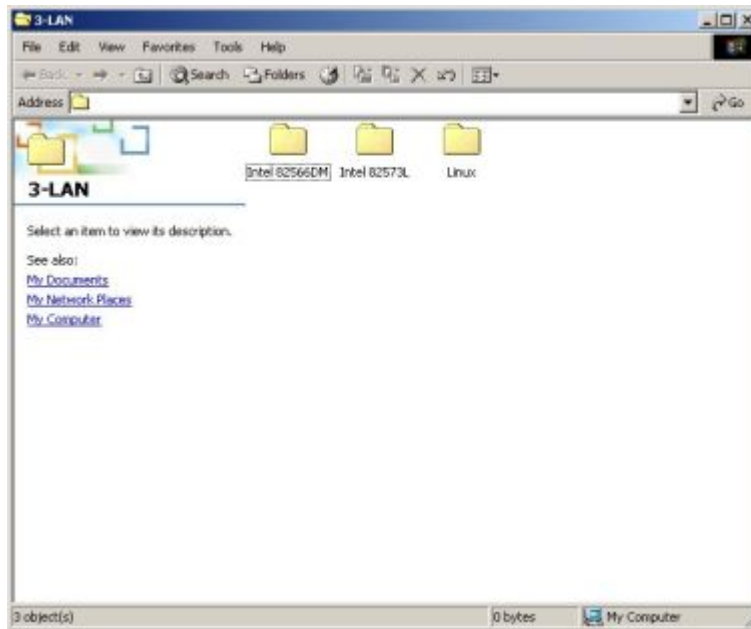

Figure 7-19: Intel® 82566 Driver Directory Icon
Step 2: The window in **Figure 7-19** appears.
Step 3: Click on the **Intel® 82566DM** directory icon in **Figure 7-19**.